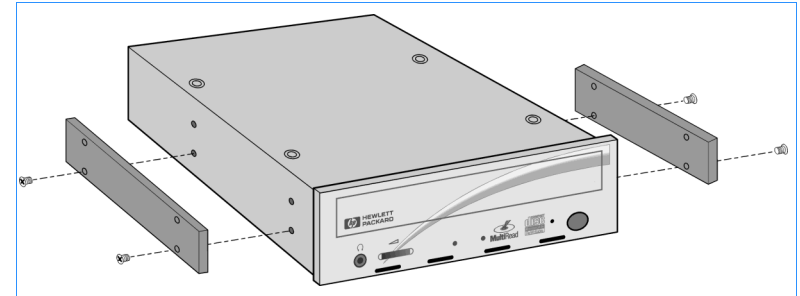

Figure 19 Rails for Mounting the Drive
- If your computer uses rails, attach the rails that came with the computer to the sides of the hp dvd-writer dvd100i drive (see Figure 19).